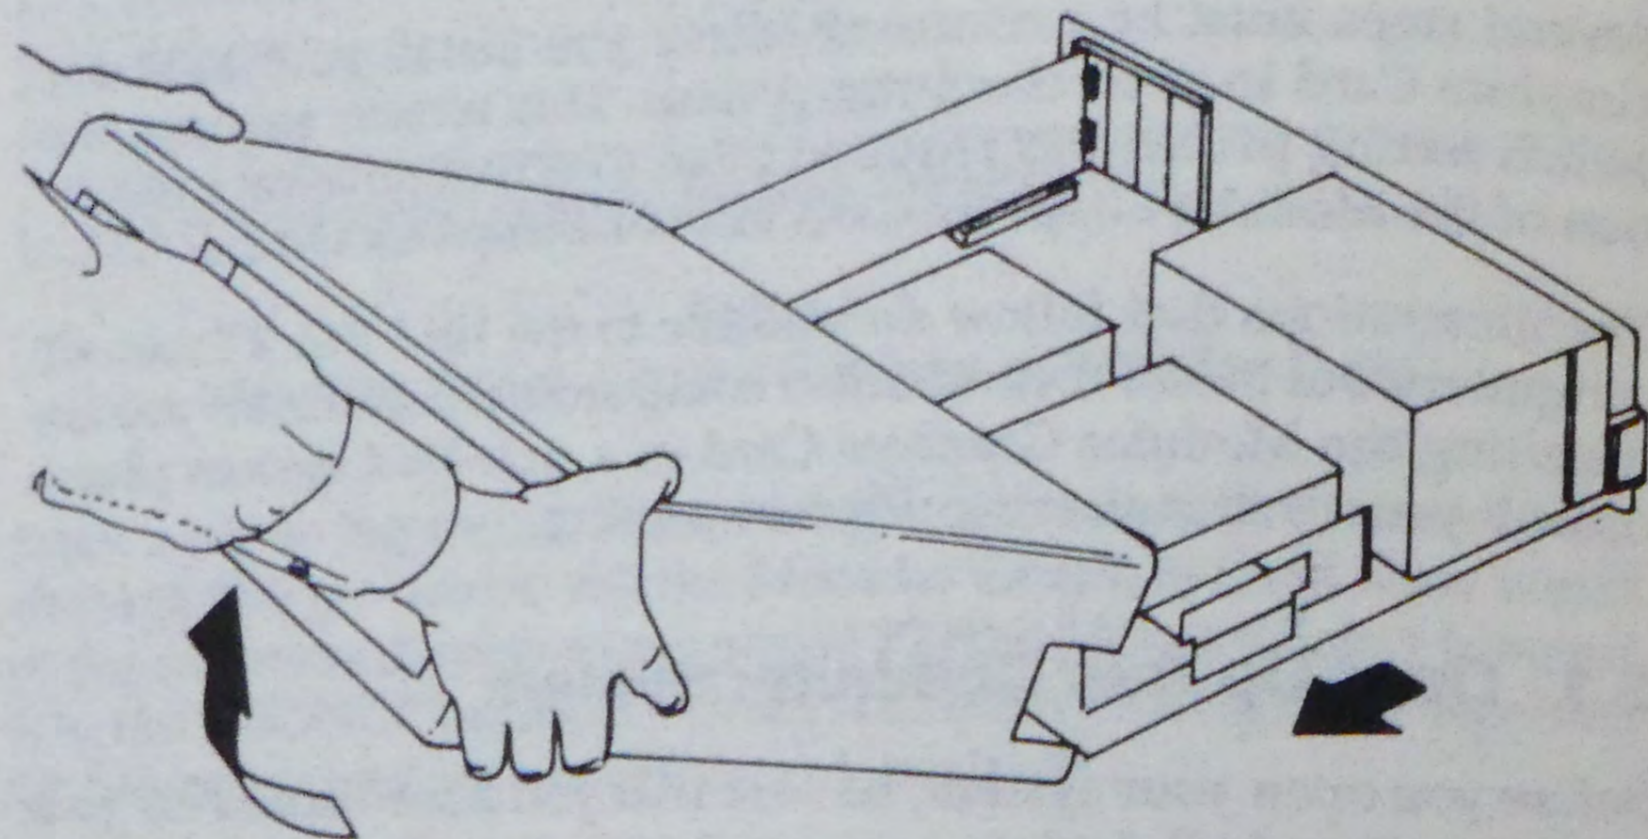

Figure 3.2
Step 2: Carefully slide the system unit cover forward. When the cover will not go any further, tilt it up as shown in figure 3.2 and lift it away.